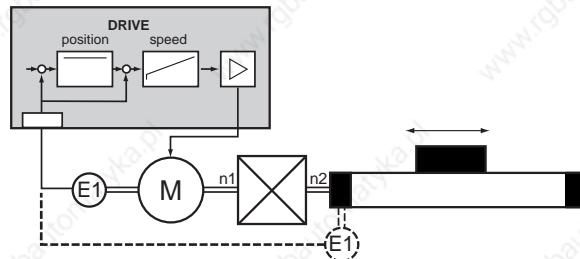

Fig. 6.37 Project planning with one encoder
- Mounting encoder E1 to the mechanics or gearbox output shaft (dashed encoder E1 in Fig. 6.37)